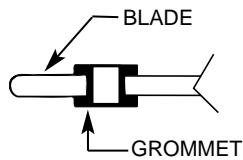

Figure 8
A. First insert the rubber grommets into the (3) holes in each wood blade. See Figure 8.